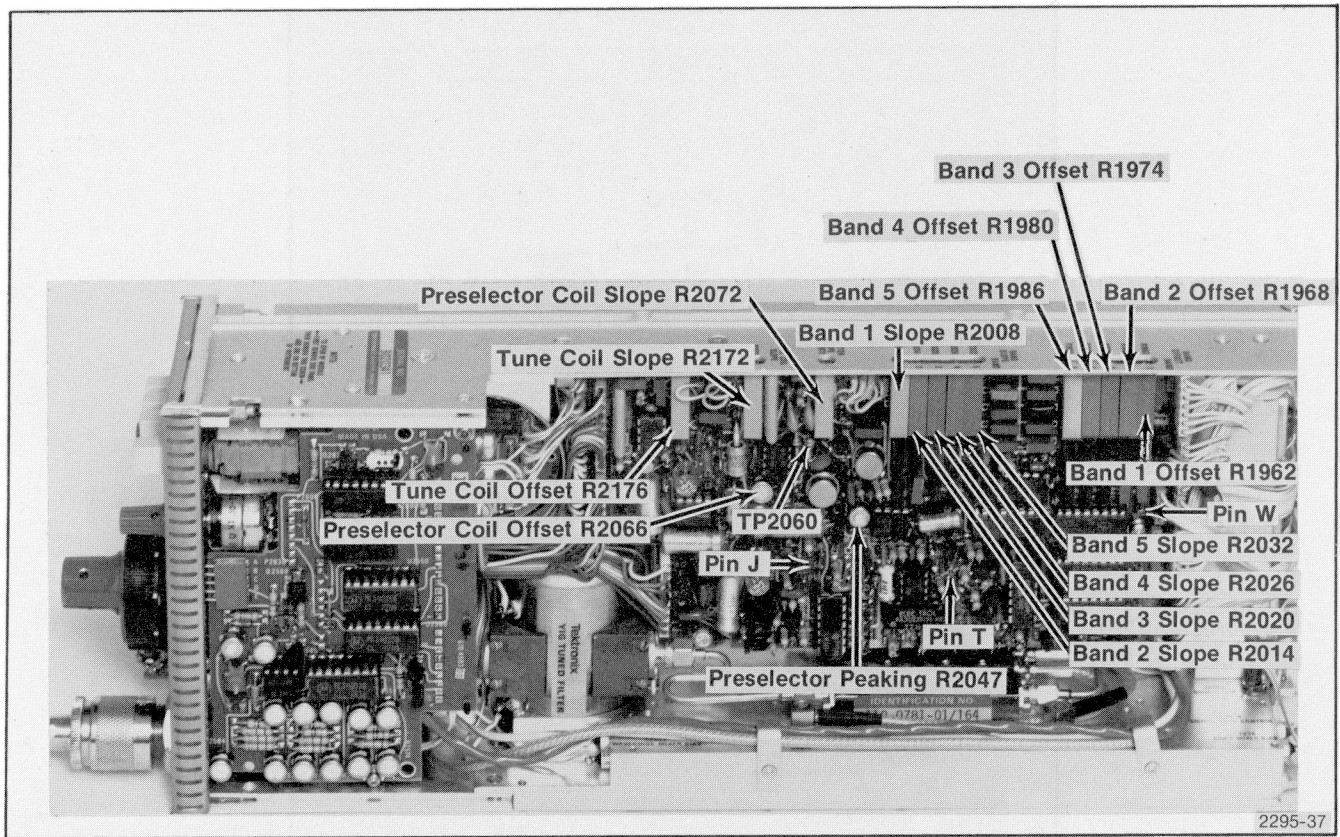
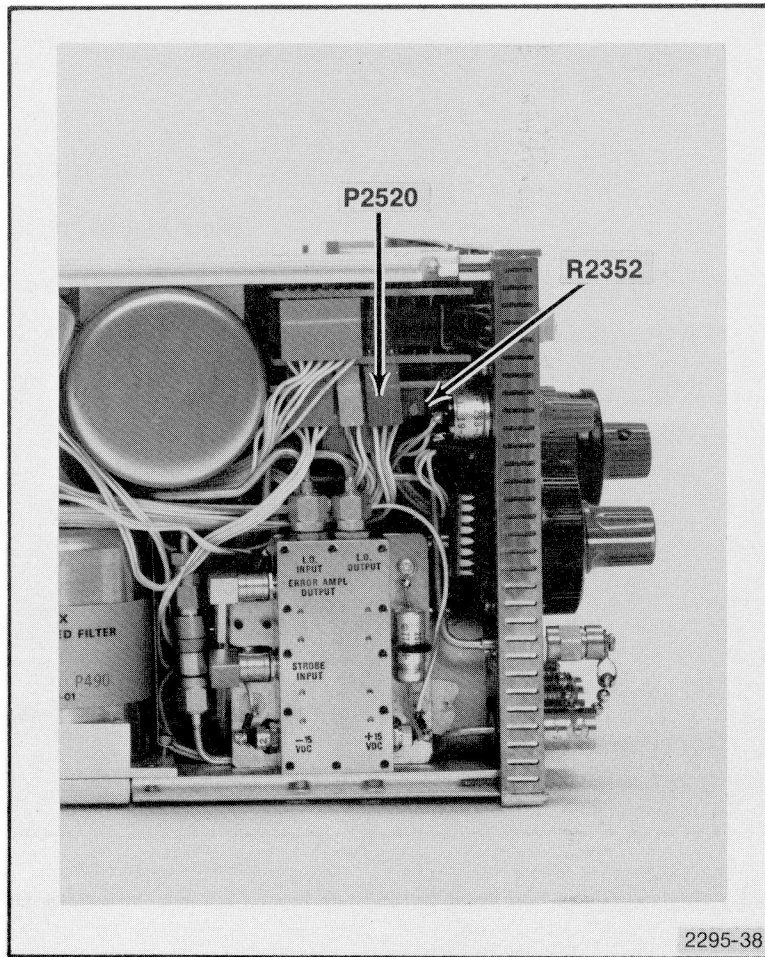

Fig. 4-29. Adjustments and Test Point Location on the 1st LO and Preselector Driver.
Fig. 4-30. Location of Reference Voltage Adjust and P2520.
d. Adjust Sweep Gain, R1308, and Sweep Centering, R1312 (see Fig. 4-30) for a 22 volt ramp centered at 0 volt.
c. Adjust Tune Coil Slope R2172 (see Fig. 4-29) for 100 MHz markers per division. If using the Cal Out signal, adjust for 500 MHz per five divisions.
d. Using a DVM or a dc-coupled test oscilloscope, adjust RF Voltage (Adj R2352) on the Reference Voltage board (see Fig. 4-30) -10.0 volts between pin W and Tune Ref Gnd (pin J) on the Preselector Driver board (see Fig. 4-29).
e. Change the FREQ SPAN/DIV to 2 MHz and measure the voltage at pin T of the Preselector Driver board (see Fig. 4-29). Adjust CENTER FREQUENCY control for a reading of 0 volt (center frequency is not at the center of the band, or 2.490 GHz).
f. Adjust Tune Coil Offset R2176 (see Fig. 4-29) so the 2.5 GHz marker is on the far right graticule line. This is 10 MHz above center.
2. With the FREQ SPAN/DIV at 2 MHz and the CENTER FREQUENCY set for 0 V at pin T of the Preselector Driver (see Fig. 4-29), the display should contain both the 2.5 GHz calibrator signal and its lower image response.
3. Press and release DEGAUSS, then adjust Tune Coil Offset R2176 (see Fig. 4-29) to position the 2.5 GHz marker on the far right graticule line.